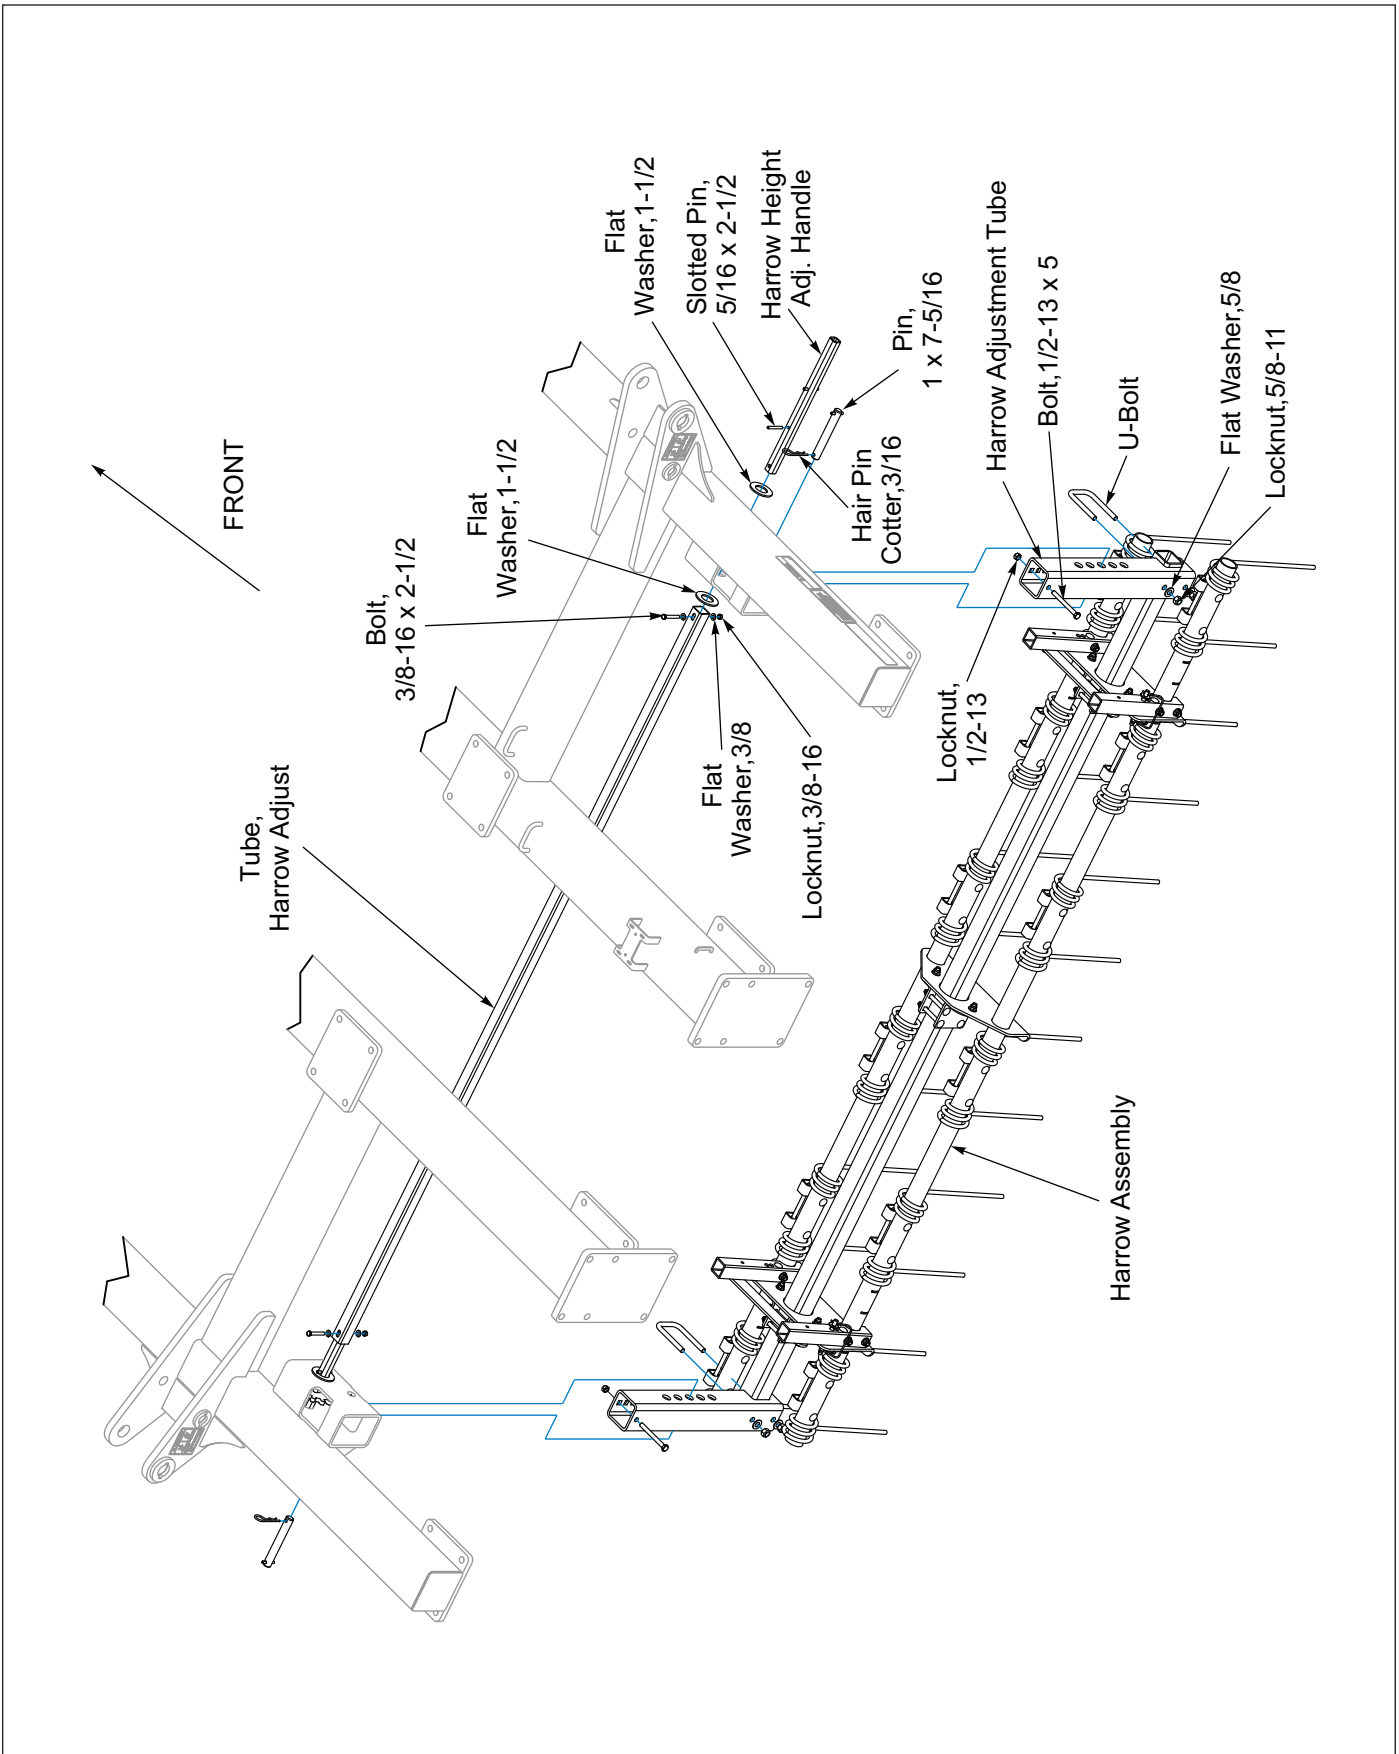

Figure 2-36: Center Frame 2-Row Harrow Installation
1. Remove 1 x 7-5/16 Pin from each Frame Adjuster Mount located on the inside of the Outer Frame Tube. Insert a Harrow Adjustment Tube into each Frame Adjuster Mount and re-insert 1 x 7-5/16 Pin in the bottom hole. Secure with 3/16 Hair Pin Cotter. **See Figure 2-36.**
2. The 2-Bar Harrow comes factory assembled. Lift Harrow Assembly and slide the Harrow 3 x 3 Tube into the cut-out portion of the Harrow Adjustment Tube and insert a 1/2-13 U-Bolt on each side. **See Figures 2-36 and 2-37.** Check Harrow position in relation to the Frame and secure with Flat Washer and Locknut.